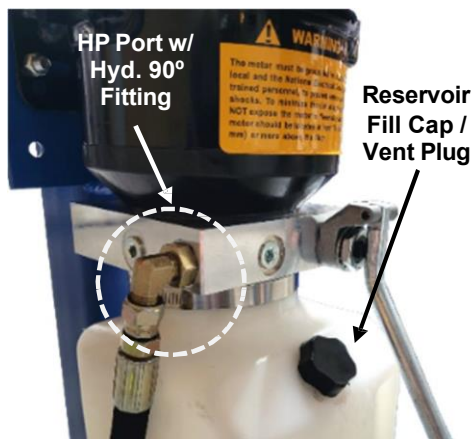

Fig. 8
- 3) Using the **Hydraulic 90° Fitting** from the hardware box, install to the **HP Port** on power unit. **Fig. 8.**
- 4) Locate the **Hydraulic Hose** from the hardware box and connect one end to the **Hydraulic 90° Fitting** installed on power unit. **Fig 8.**
- 6) Remove Fill Cap / Vent Plug to add **Hydraulic Oil (SAE-10, AW 32)** to **115V Power Unit Reservoir Tank**, Add to Min. Fill line on Drip Stick, approx. **1.5 gallons (6 quarts)** **Fig. 8.** **NOTE: Do Not Use ATF!!**